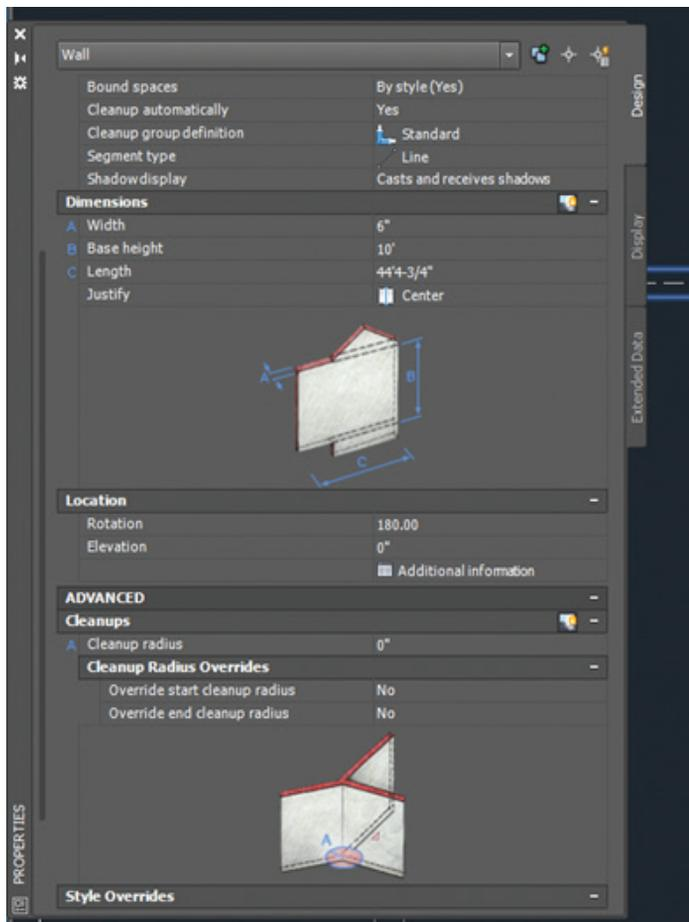

Figure 3: Properties palette
- ✦ You can change settings on the Properties palette (see Figure 3).